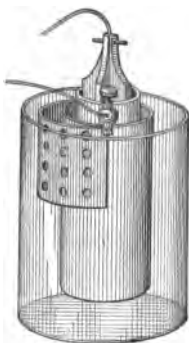

FIG. 176
*Chemical energy* is transformed into electrical by means of a cell or battery (a group of cells). Fig. 176 shows a single cell. *Mechanical energy* is usually transformed to electrical by means of a dynamo. We shall study each method with some care.